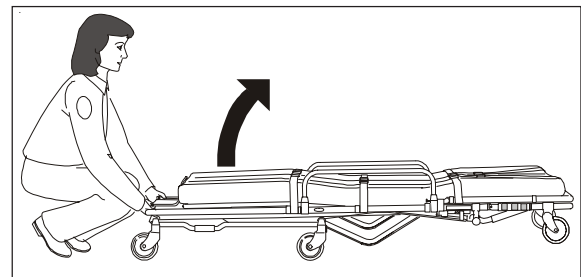

Figure 15 - Unfolding an Empty Cot
1. Stand at the foot-end of the cot and grasp main frame (Figure 15).